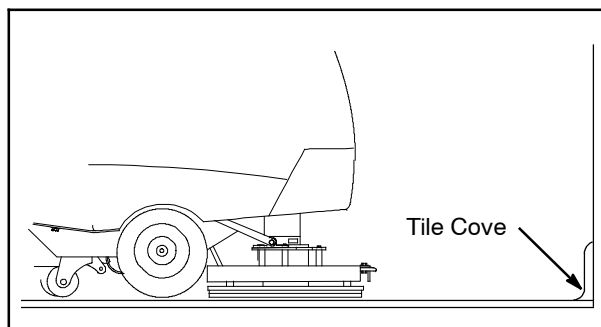

FIG. 75
8. Orbital Scrub Head Model - Use caution when working near the tile cove (Figure 75) and floor mounted fixtures such as pedestal sinks and other breakable items. Keep the metal scrub head edge away to avoid possible damage.